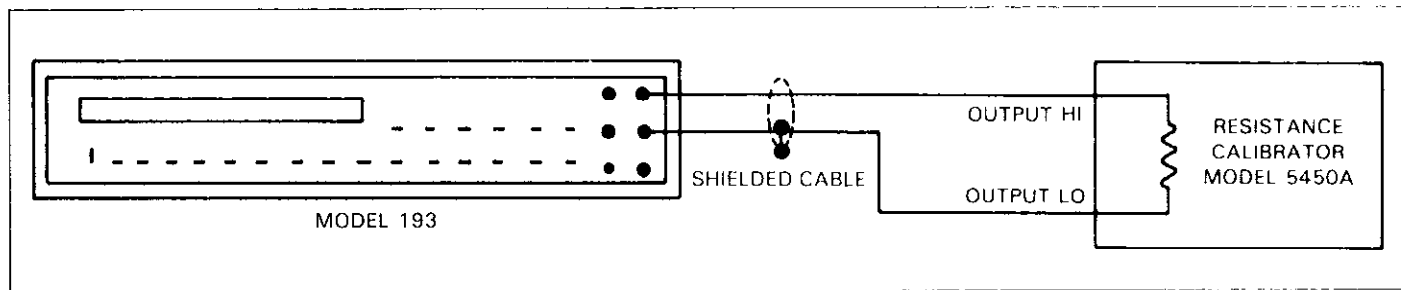

Figure 6-5. Two-Wire Resistance Calibration Configuration (200kΩ-200MΩ Ranges)
F. Repeat the procedures in step 3 for the remaining ohms ranges using Table 6-6 as a guide. Refer to Figure 6-5.